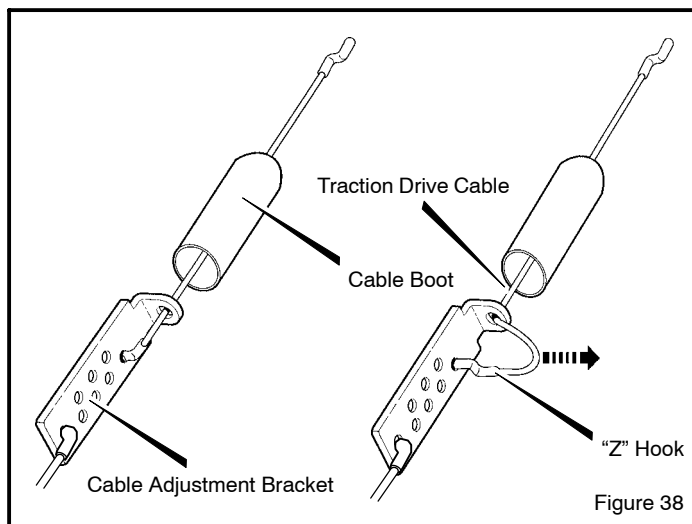

Figure 38
5. Slide the **cable boot** off the **cable adjustment bracket** (see Figure 38).